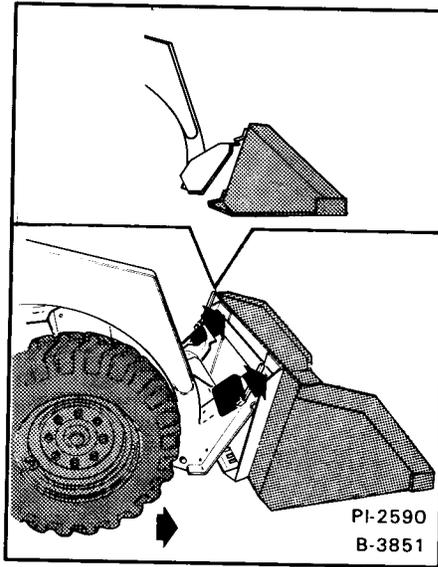

Fig. 25 Installing the Bucket
2. Tilt the Bob-Tach forward. Drive forward to the bucket until the top edge of the Bob-Tach is under the flange of the bucket and centered (Fig. 25). **DO NOT** damage the Bob-Tach levers.